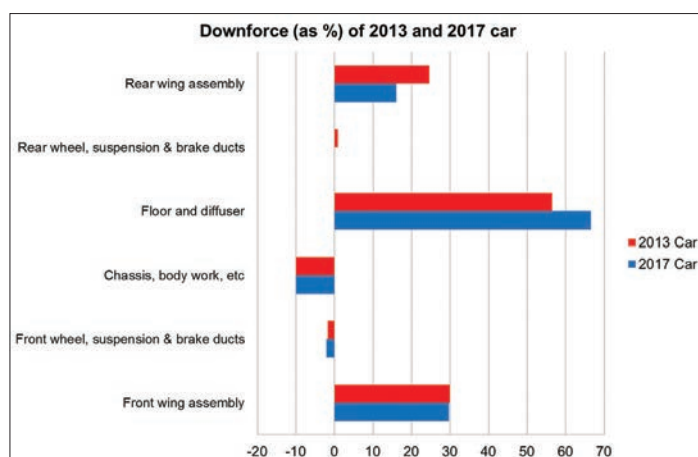

Figure 5: Downforce contributions on the two cars showing differences between them
**Figures 5 and 6** give comparisons between the sources of downforce and drag on the 2013 and the 2017 cars. The proportion of total downforce generated by the rear wing was smaller on the 2017 car but the underbody contribution was bigger; front wing downforce was roughly comparable. The main changes in